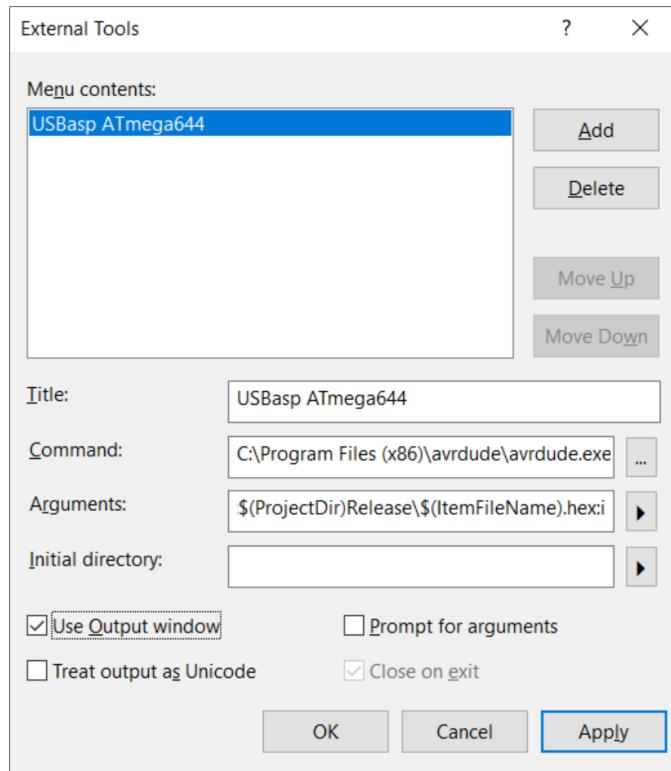

Figure 37: Adding a programming option for USBasp to Microchip Studio
2. As shown in Figure 37, choose `avrduude.exe` for the command (in whichever directory you unpacked it).